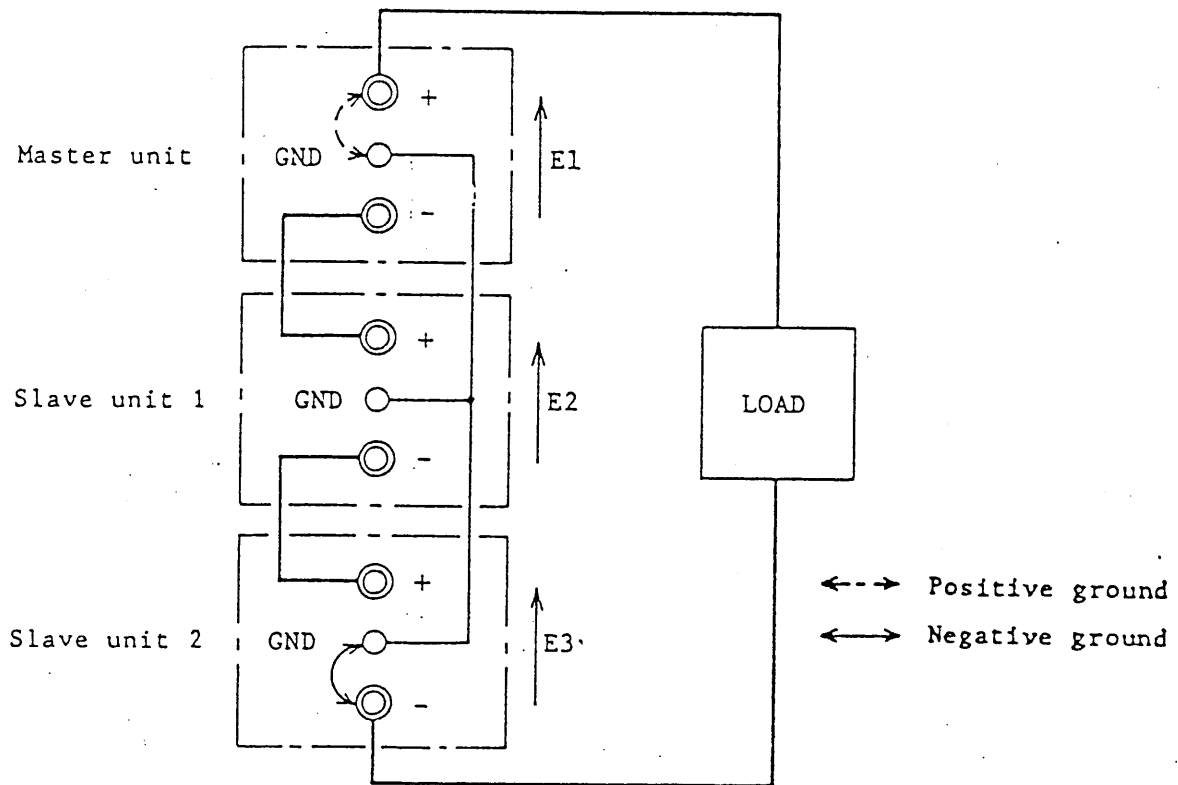

Figure 4-17. Output terminal connections
5. Connect the GND terminals of all units as shown in Figure 4-17.